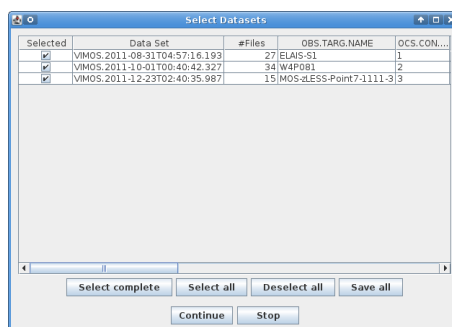

Figure 4.3: The “Select Datasets” pop-up window.
7. The `Data Set Chooser` actor will be highlighted next and will display a “Select Datasets” window (see Figure 4.3) that lists the `DataSets` along with the values of a selection of useful header keywords⁵. The first column consists of a set of tick boxes which allow the user to select the `DataSets` to be processed, and by default all complete `DataSets` are selected.